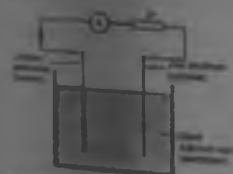

Figure 4.1
A simple cell comprises two dissimilar conductors (electrodes) in an electrolyte. Such a cell is shown in Fig. 4.1, comprising copper and zinc electrodes. An electric current is found to flow between the electrodes. Other possible electrode pairs exist, including zinc-lead and zinc-iron. The electrode potential (i.e. the p.d. measured between the electrodes) varies for each pair of metals. By knowing the e.m.f. of each metal with respect to some standard electrode, the e.m.f. of any pair of metals may be determined. The standard used is the hydrogen electrode. The electrochemical series is a way of listing elements in order of electrical potential, and Table 4.1 shows a number of elements in such a series.
If the simple cell shown in Fig. 4.1 is left connected for some time, the current I decreases fairly rapidly. This is because of the formation of a film of hydrogen bubbles on the copper anode. This effect is known as the polarisation of the cell. The hydrogen prevents full contact between the copper electrode and the electrolyte and this increases the internal resistance of the cell. The effect can be overcome by using a chemical depolarising agent or depolariser, such as potassium dichromate which removes the hydrogen bubbles as they form. This allows the cell to deliver a steady current.
- (i) The metal that is higher in the series acts as the negative electrode, and vice-versa. For example, the zinc electrode in the cell shown in Fig. 4.1 is negative and the copper electrode is positive.